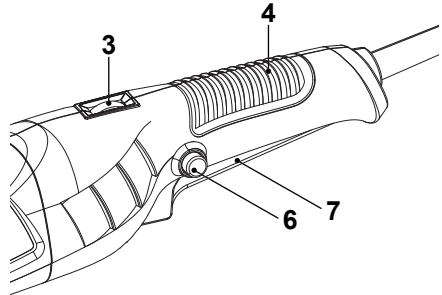

Fig. 10
- > Switch the product on by pressing the on/off switch (7) (Fig. 10).
- > Switch the product off by releasing the on/off switch (7) (Fig. 10).
- > Switch the product on by pressing the on/off switch (7) and hold it in position (Fig. 10).
- > Press the lock-on button (6) to lock the on/off switch (7) (Fig. 10).>
- Release both switches. The on/off switch (7) is now locked-on for continuous use.
- > Depress and release the on/off switch (7) to switch the product off.